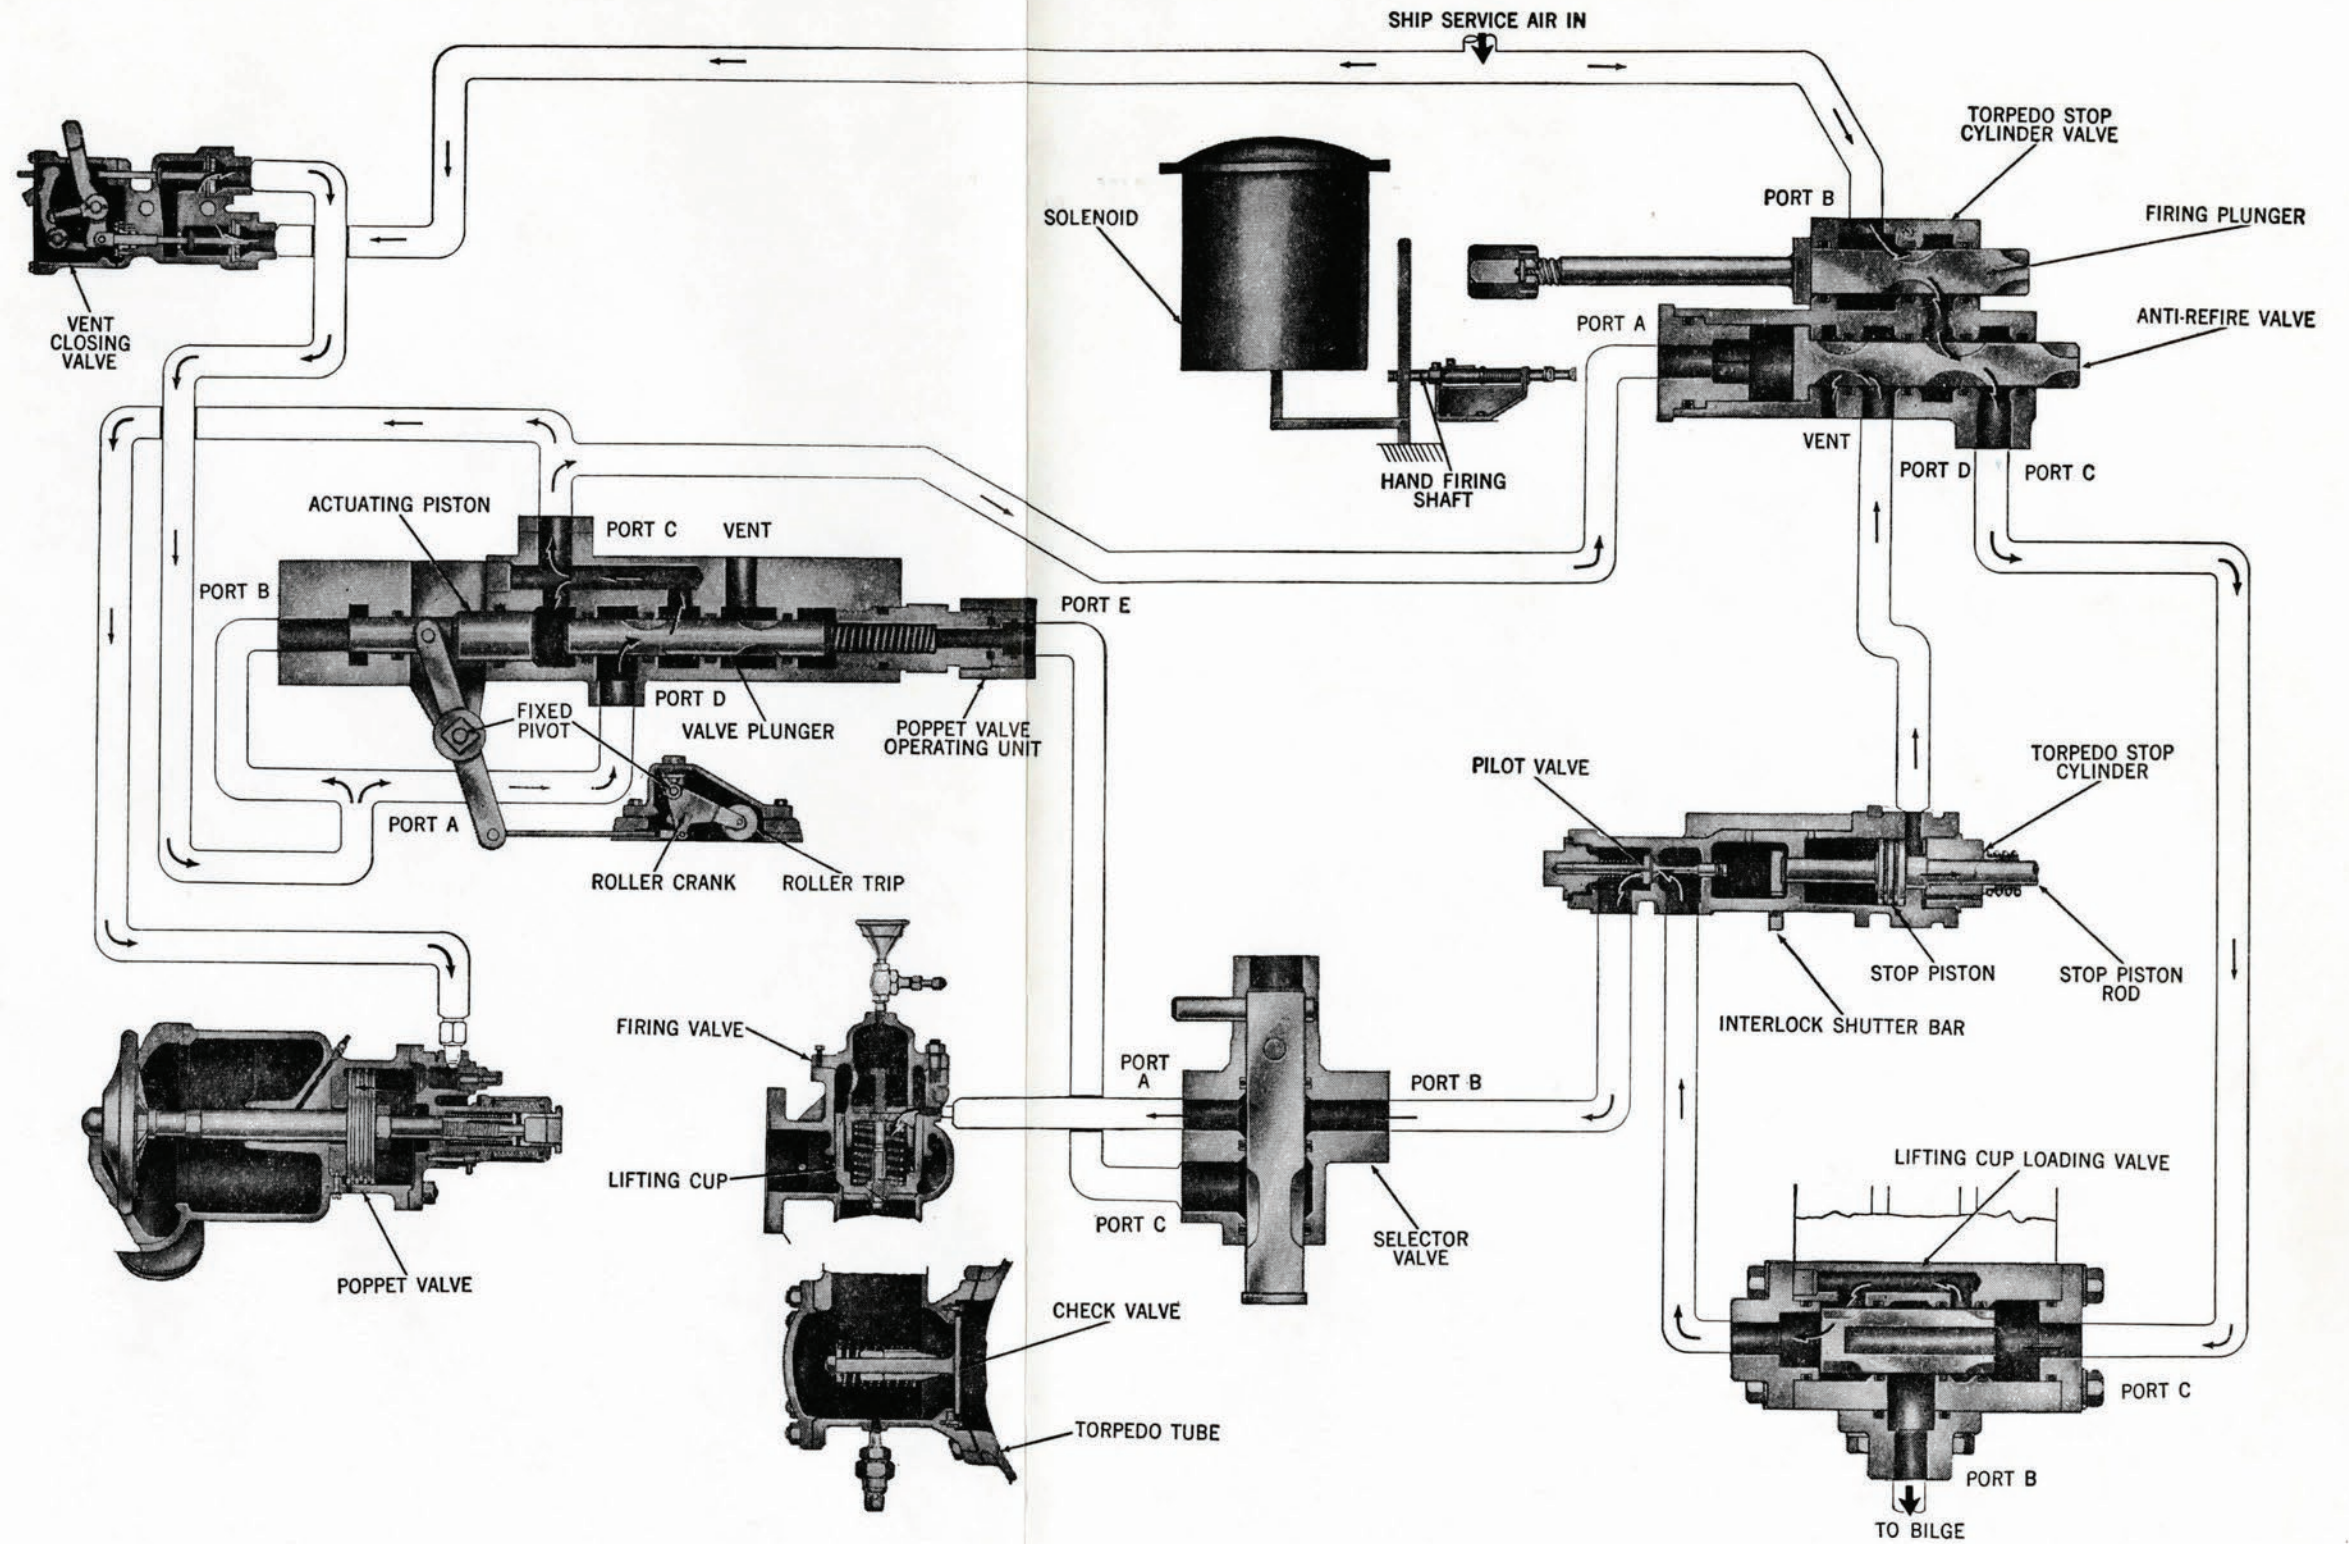

Figure 169—Firing Mechanism Schematic Diagram—
4. Movement of the operating unit valve plunger, step 3, ports ship service air directly to the poppet valve to open it, figure 169. Through a branch